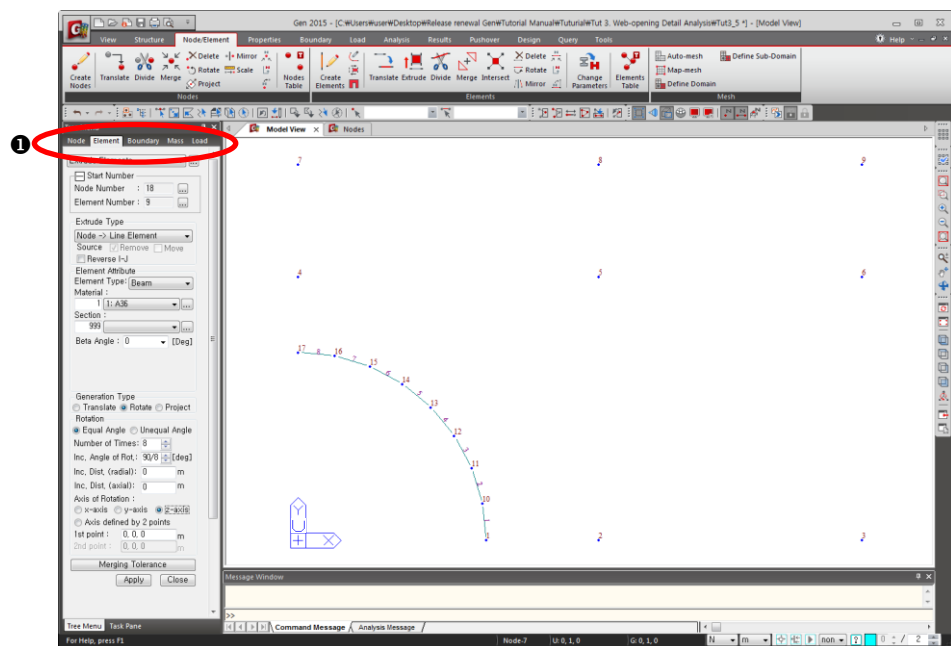

Figure 3.3 Generation of Temporary Beam Elements around the Opening Circumference
1. Select **Element** in the **Model Entity** tab (Fig.3.3–①).